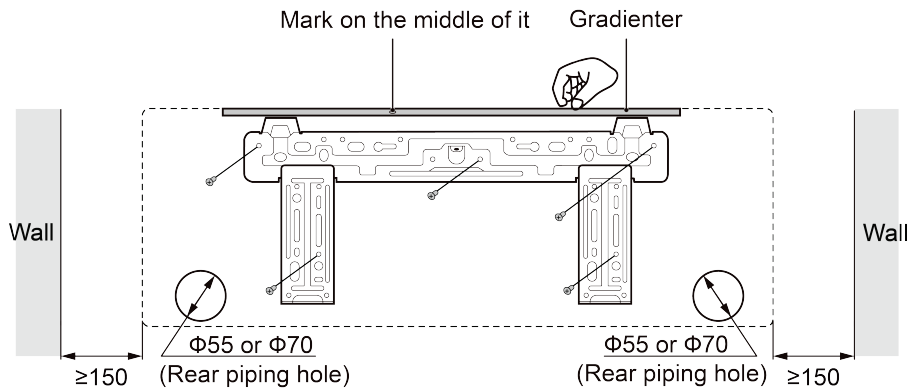

Fig 4.2
- ① Find the horizontal position by the seton method; since the drainage pipe is on the left side, it is necessary to adjust the rear panel to make its left side a little bit lower.
- ② Fix the rear panel on the wall by bolts.
- ③ After installing the rear panel, pull it by hands to check if it is secured enough. The hang panel should support the weight of an adult (60kg), and the weight shared by every bolt should be fairly even.
- ④ The diameter showed in Fig 4.2 is 55mm or 70mm.
- (1) Make the piping hole ( $\Phi$  55mm or 70mm) in the wall at a slight downward slant to the outdoor side. The center of the hole should be determined referring to Fig 4.2.
- (2) Insert the piping-hole sleeve into the hole to prevent the connected piping and wiring from being damaged when passing through the hole.